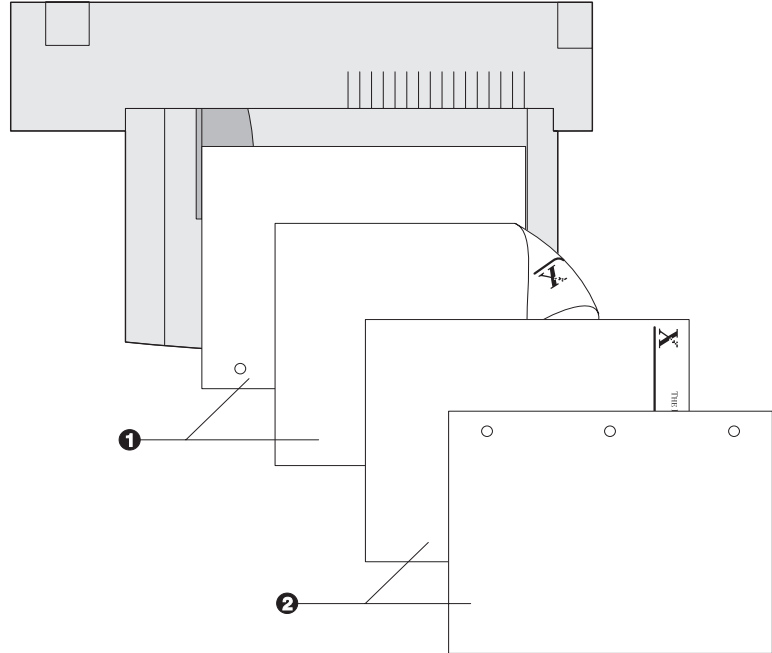

Figure 4.5 50 Sheet Bypass Feeder paper orientation (short edge feed)
- 2** Place the paper along the right side of the Bypass Feeder (refer to Figure 4.4 on page 4-16 and Figure 4.5 on page 4-17 for paper orientation, and Figure 4.6 on page 4-18 for envelope orientation).